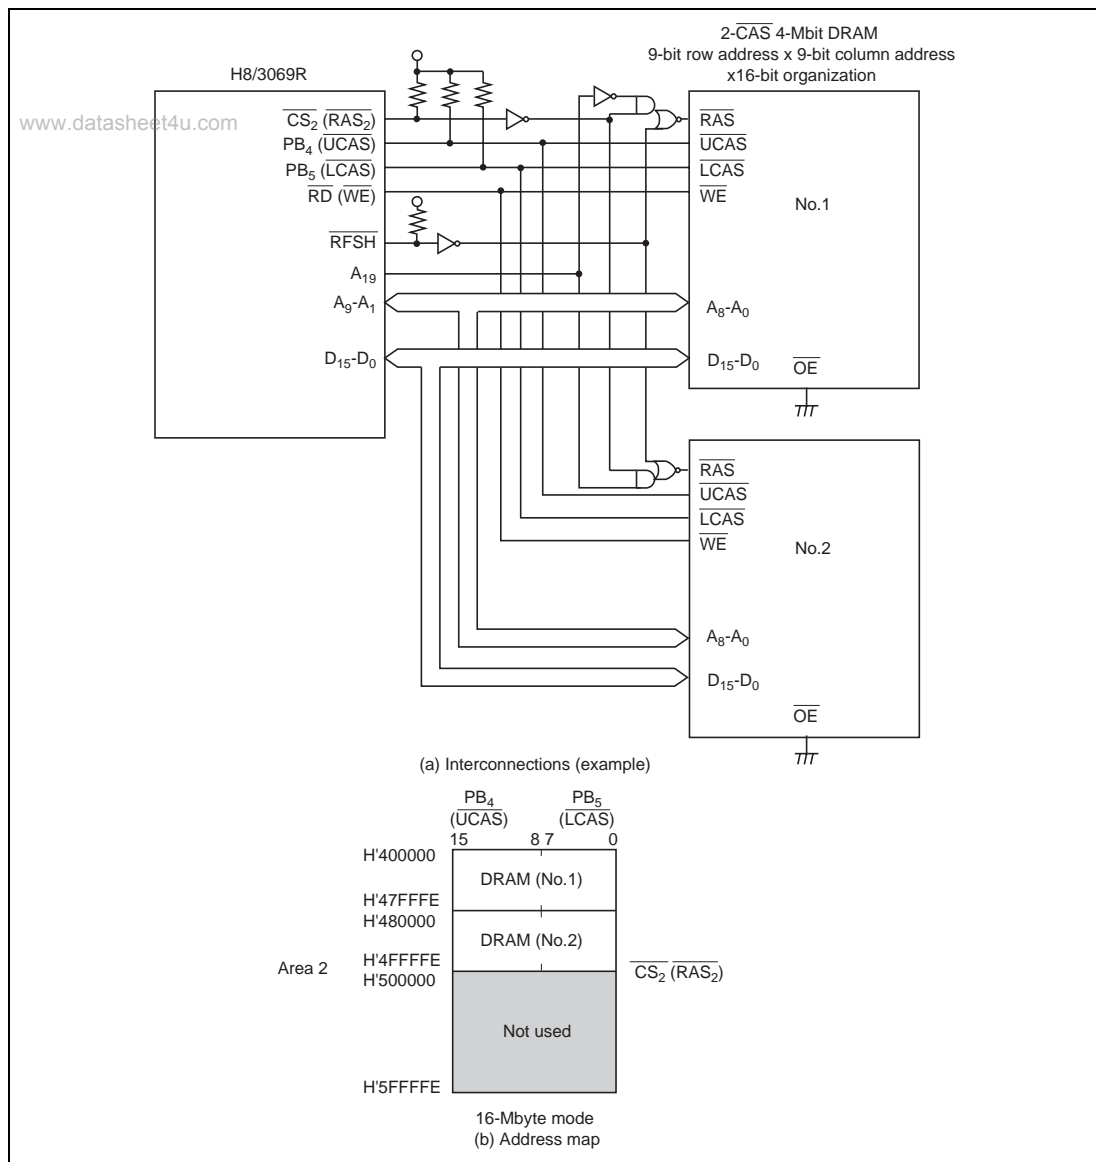

Figure 6.33 Interconnections and Address Map for 2-CAS 4-Mbit DRAMs with \times 16-Bit Organization
- Figure 6.33 shows typical interconnections when using two 4-Mbit DRAMs, and the corresponding address map. The DRAMs used in this example are of the 9-bit row address \times 9-bit column address type. In this example, upper address decoding allows multiple DRAMs to be connected to a single area. The $\overline{\text{RFSH}}$ pin is used in this case, since both DRAMs must be refreshed simultaneously. However, note that RAS down mode cannot be used in this interconnection example.